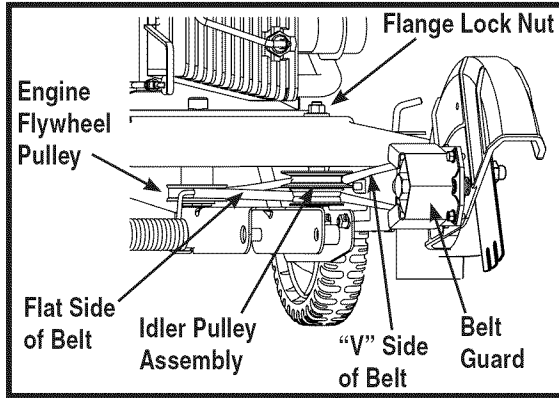

Figure 10
1. Working in front of the edger, loosen the flange lock nut on top of frame, allowing the idler pulley assembly to pivot slightly out from the frame. See Figure 10.
IMPORTANT: To aid in reassembly, note the orientation of the drive belt on the two idler pulleys and the engine flywheel pulley prior to performing the following steps. Refer to Figure 10.
3. Remove the spindle sheaves belt guard by removing the two self-tapping screws which secure it to the blade plate assembly. See Figure 10.